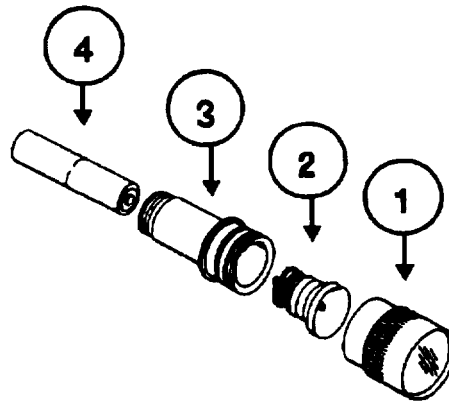

Figure 2-12. Lighting Components
b. The lamp module components, Figure 2-12, are the lamp housing (1), bezel with six volt lamp (2), L60 adapter (3), and lithium battery (4). The pressure switch is integrated into the handguard.